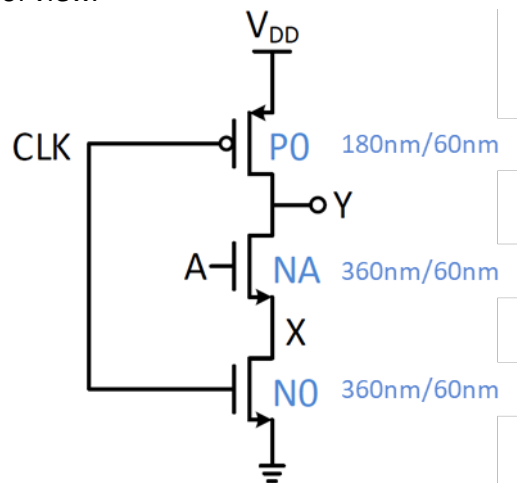

Figure 6: Dynamic Inverter Gate
Now we would like to make an AND gate by cascading a dynamic inverter to the NAND gate. Create a schematic view and call it **DYN_N_F_IN1_X1**. The inverter should look similar to the one on Figure 6. You can simply copy the cell **DYN_N_F_ND2_X1** and modify it to save some time; if you do so, do **NOT** forget to modify also the symbol view.
- Observe the transitions by looking at the inverter schematic on Figure 6 (**DYN_N_F_IN1_X1** on Cadence) and considering the MOS parasitic capacitances (Do not forget the fact that the input of the inverter is a precharged floating node during the evaluation phase).
- Observe the transitions by looking at the inverter schematic on Figure 6 (**DYN_N_F_IN1_X1** on Cadence) and considering the states of the three transistors on that schematic (either they are ON/OFF).